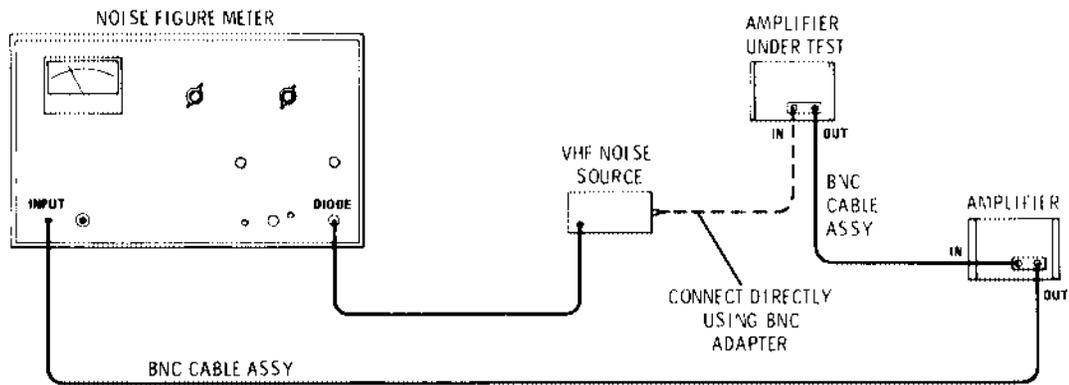

Figure 8 Noise Figure Test Setup: 100 MHz
- 1 Connect the equipment as shown in Figure 8. Calibrate the noise figure meter. Check the amplifier's noise figure at 100 MHz (or 105 MHz). It should be less than 8.5 dB.